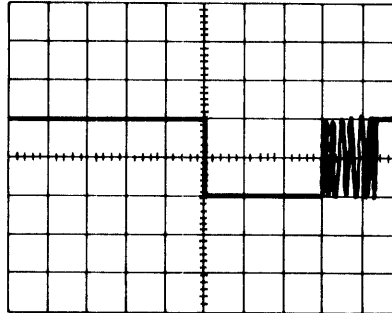

Figure 7-11 Phase Lock Loop Gain
7.4.3 Phase Lock Loop Gain (R36) (Figure 7-11)
Uncalibrate the time base. Vary the time base to display one entire cycle, including all the "jitter," over 9 major divisions on the screen (Figure 7-11).
4. Horizontally position the leading edge on the first left hand graticule and verify that the entire signal with all of its "jitter" is displayed (Figure 7-11).